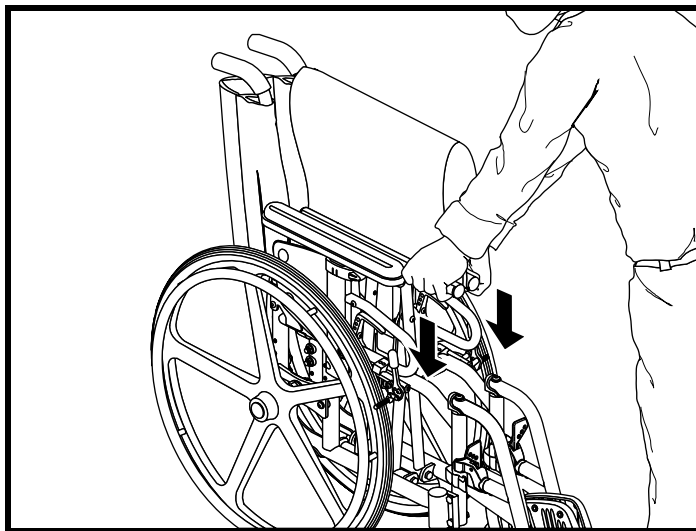

Figure 7. Unfolding the Litestream XF
2. Place the palms of your hands on each seat base rail. See figure 7.